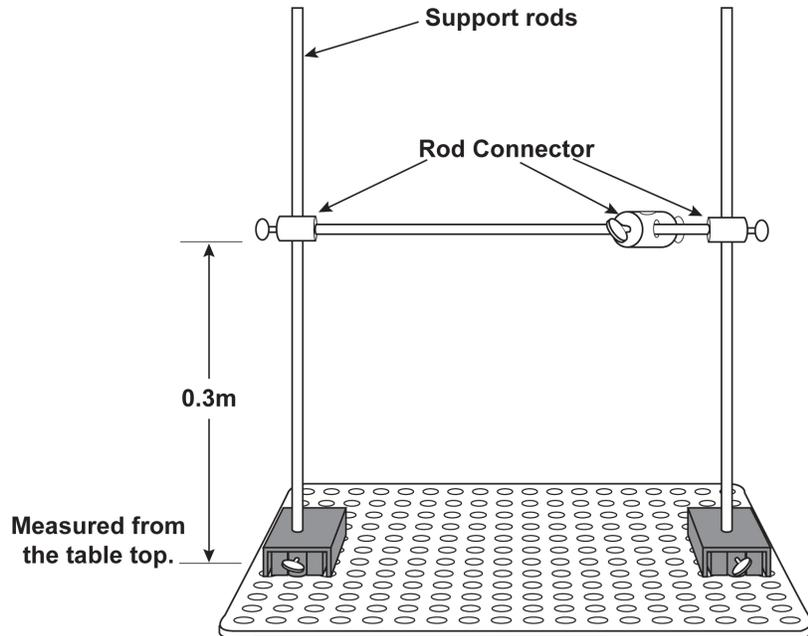

Figure 10
- 1. Set up the lab equipment as shown in Figure 10. Position the black bases along the second column of holes as Figure 10 shows.